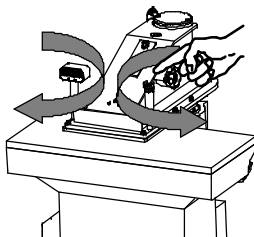

Fig. 11
b) The arm can be moved both to the left and to the right (with a total rotation of 180° about) by means of the two handles. On the right one there is the 2-hand control push-button (Fig. 11).